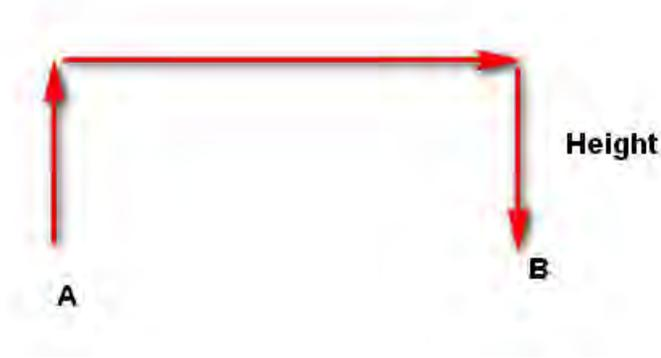

Figure 3.8 JUMP mode
- **JUMP**: From point A to point B, the joints will move in MOVJ mode, of which the trajectory looks like a door, as shown in Figure 3.8.